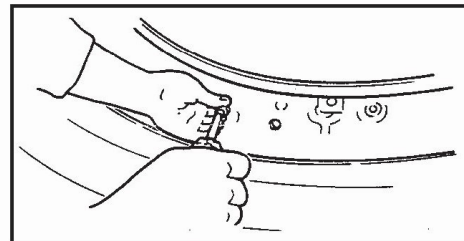

Figure 1
4. Remove the valve core; deflate tires completely.,(See Fig. 1.)